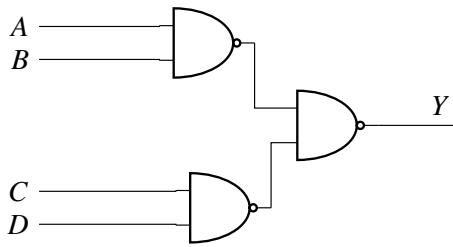

Fig. 3.21
38. In the logic circuit shown in Fig. 3.21,  $Y$  is given by